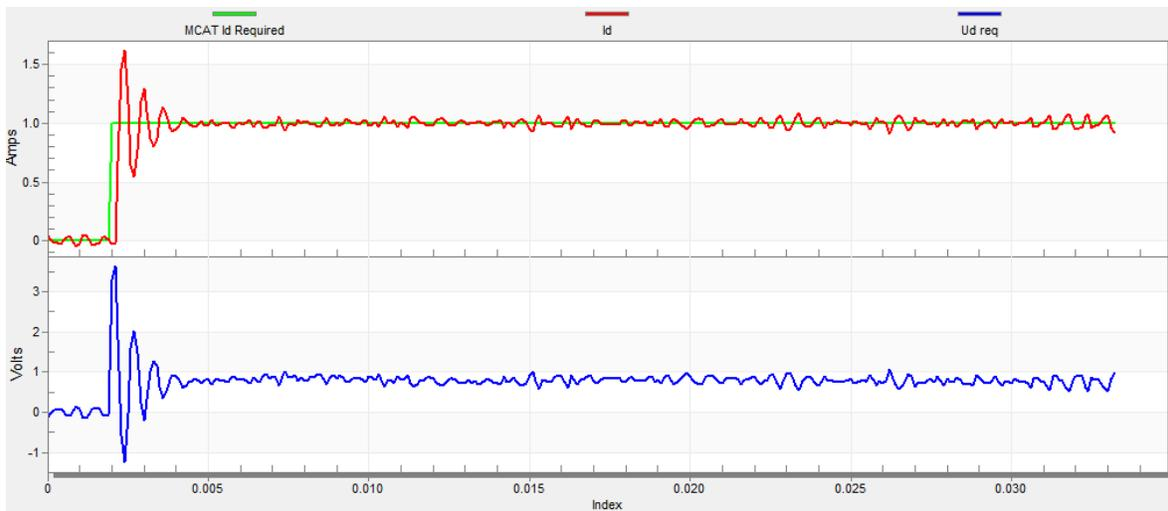

Figure 45. Fast step response of the Id current controller
- The loop bandwidth is high (700 Hz) and the response time of the  $I_d$  current is very fast, but with oscillation and overshoot (see Figure 45).